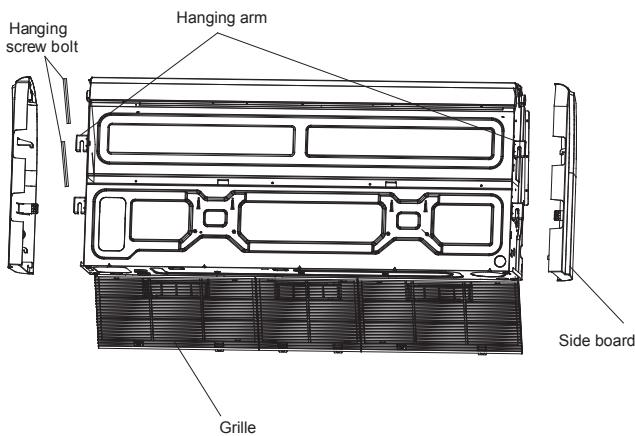

Fig. 5-8
- Remove the side board and the grille.(Refer to Fig. 5-8)